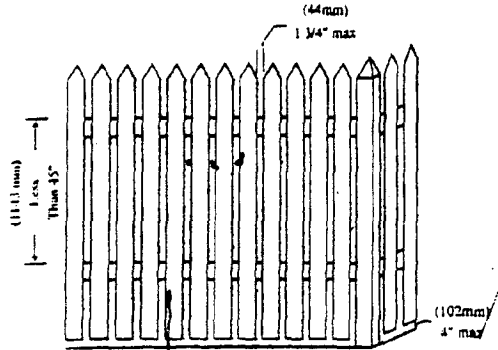

FIG. 1 IF HORIZONTAL MEMBERS ARE LESS THAN 45" (1143mm) APART, THE SPACE BETWEEN VERTICAL MEMBERS SHALL NOT EXCEED 1-3/4" (44mm).
- (1) Horizontal members must be located on the hazard side of the fence if the distance between the tops of the horizontal members is less than 45 inches. Space between vertical members shall not exceed 1¾ inches. (See Figure 1.)